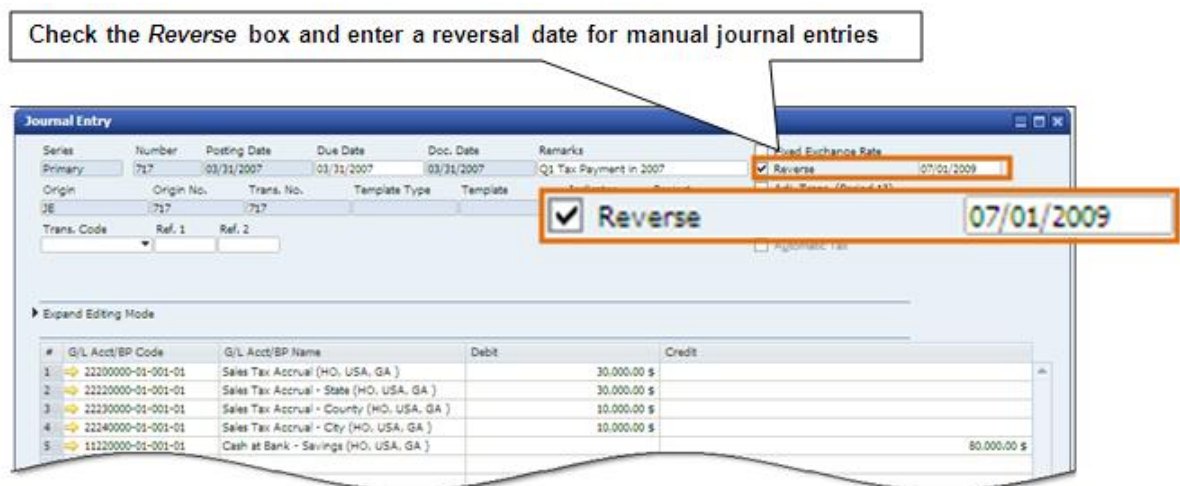

Figure 3-7: Automatic reversal of manual journal entries
- Run the *Transaction Journal Report* and open the relevant journal entry, then check the *Reverse* box and click *Update* (see Figure 3-7)